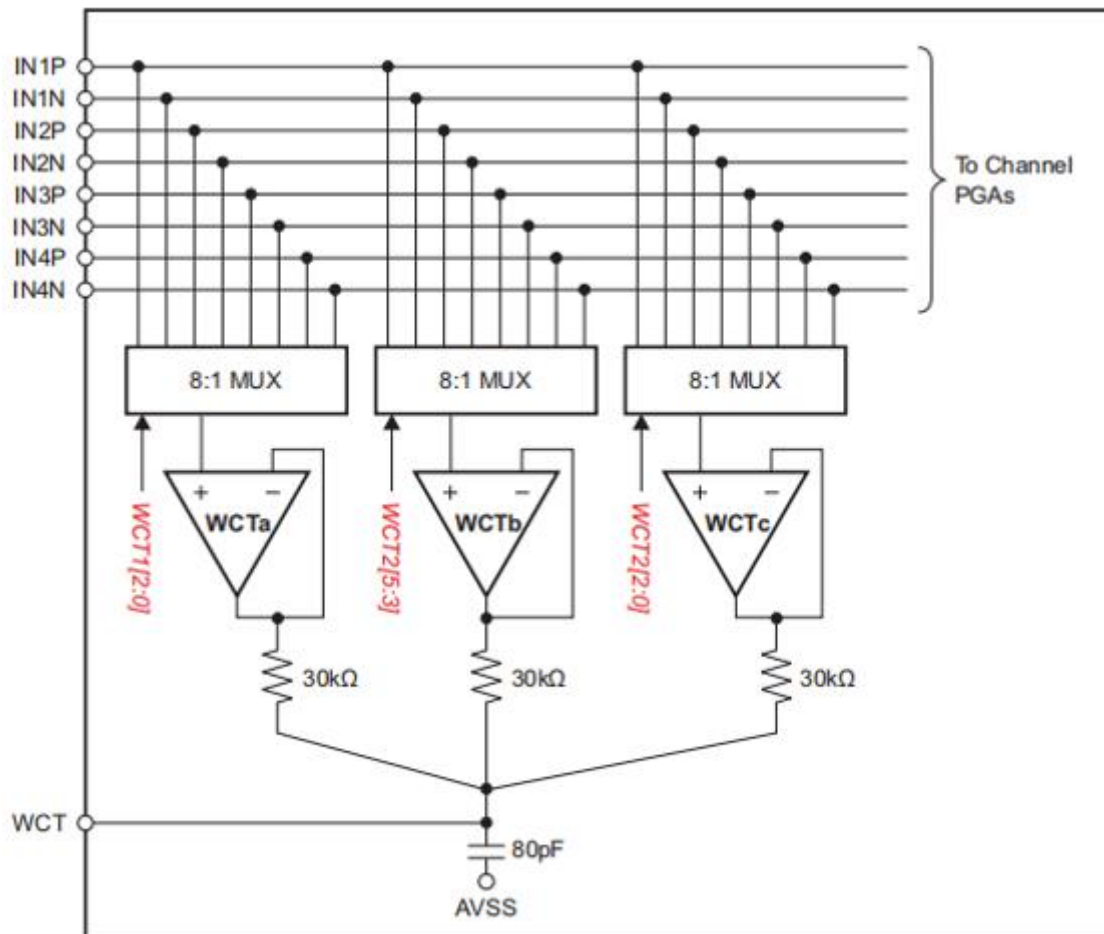

Figure 9.3.15 WCT lead generation circuit
In a standard 12-lead ECG, the WCT voltage is defined as the average potential of the right arm (RA), left arm (LA), and left leg (LL) electrodes. This voltage serves as the reference voltage for measurements of the precordial leads. Integrated within the CBM24AD98Q chip are three low-noise amplifiers capable of generating the WCT voltage, as illustrated in Figure 9.3.15. Any one of the eight signals (from IN1P through IN4N) can be routed to each of these amplifiers to compute the average. This versatility enables the RA, LA, and LL electrodes to be connected to any input of the first four channels, depending on the lead configuration adopted. The adaptive design accommodates various lead setups while maintaining the essential function of the WCT as a stable reference point for electrocardiographic readings.